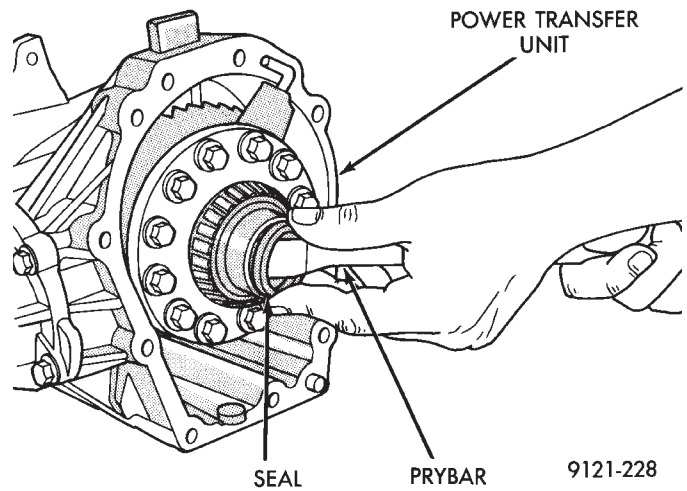

Fig. 8 Seal Removal
(4) Pry out seal with a pry bar (Fig. 8).